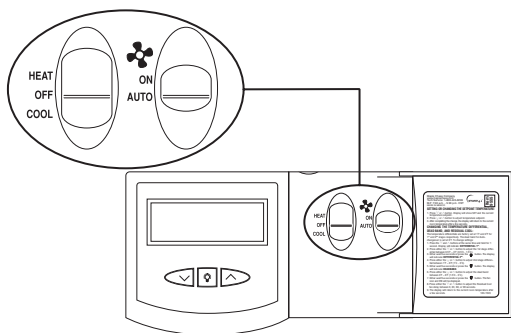

Figure 2
2. Place HEAT-OFF-COOL in OFF position (Figure 2).
3. Place ❁ -ON-AUTO switch into AUTO position (Figure 2).